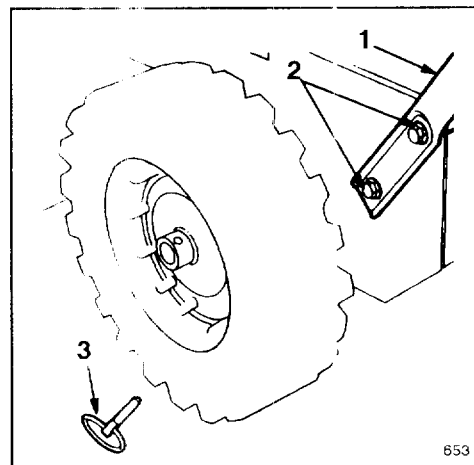

Figure 1
3. Position left handle against side of unit, align handle mount holes with holes in side plate, and secure with two capscrews and curved washers until finger tight (Fig. 1)